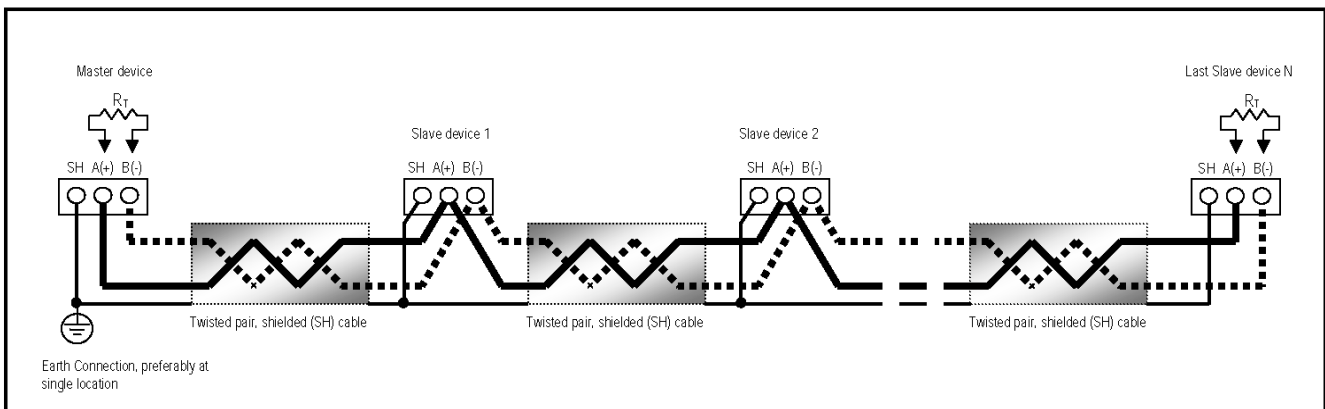

Figure 5.3: RS485 Daisy Chain Connection
- Connect shield to RS485 Master and individual devices as shown in Figure 5.3. You may also connect the shield to earth-ground at one point.
Figure 5.3 shows a representation of an RS485 Daisy Chain connection.
To provide power to the meter, attach an **Aux cable** to GND, L(+) and N(-) Refer to Chapter 4, Figure 1. The **RS485 cable** attaches to SH, B(-) and A(+) as shown in Figure 5.3 of this chapter.